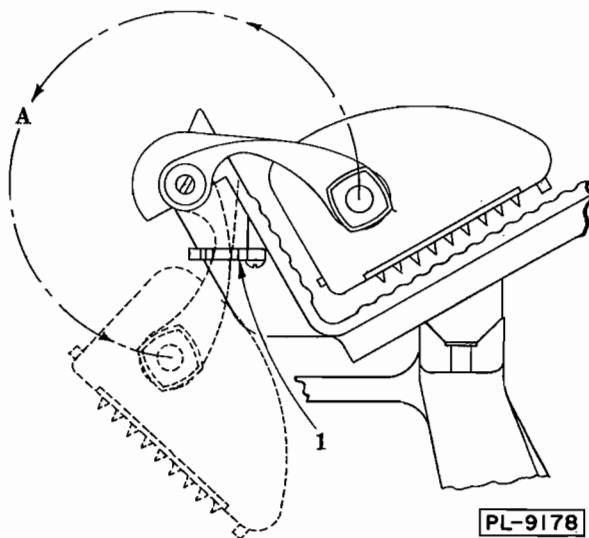

Fig. 2
- Swing the grip around as shown by arrow and broken line (A, Fig. 2).
- Rotate the grip into a position that allows it to nest in the grip retaining clip (1, Fig. 2).
After a few slices have been cut and the end of the piece is squared off, the meat will usually feed without help from the grip. For safety reasons when cutting a short end piece, ALWAYS place the grip behind the item being sliced. This method also allows cutting down to the last slice. The grip, when not in use, may be moved to its in-operative position at the end of the carriage tray as described in section 4 and illustrated in figure 2.